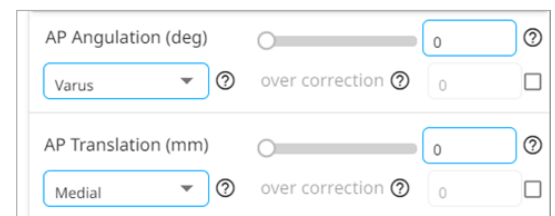

Figure 22
- **AP Angulation (deg):** enter a value in degrees; select varus or valgus from the drop-down **(Figure 22)**